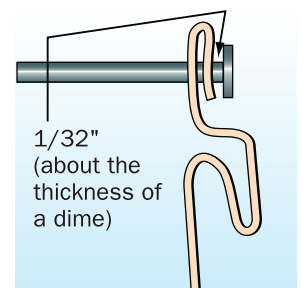

Figure 3. Allow 1/32" clearance between the fastener head and the siding panel.
- To allow for thermal movement of the siding, do not drive the head of the nail tight against the nail hem (unless the hem has been specifically designed for this). Allow approximately 1/32" (which is about the thickness of a dime) clearance between the fastener head and the siding panel (Figure 3).